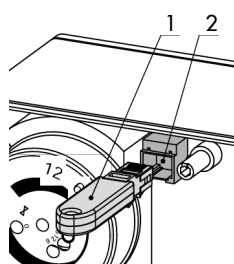

Fig. 27: Connecting actuator and memory pen
The memory pen is connected to the actuator as shown in Fig. 27. The TROVIS-VIEW Operating Instructions ► EB 6661 describe how to transfer data.
1. Plug the memory pen into the serial interface of the actuator (see Fig. 27). The yellow LED on the actuator indicates that the data logging is being prepared (see Chapter 8.4). A change in the blinking pattern of the yellow LED indicates that data are being saved to the memory pen.